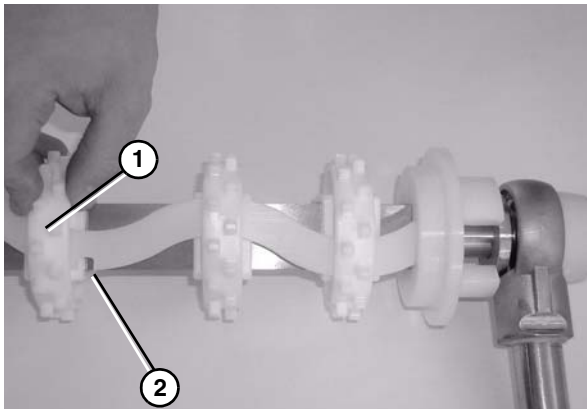

**Figure 76**
3. Insert the sprocket alignment bar (**Figure 76, item 1**) into the first sprocket (**Figure 76, item 2**) resting it up against the flanged puck (**Figure 76, item 3**). Position the first sprocket with the notch in the sprocket alignment bar.